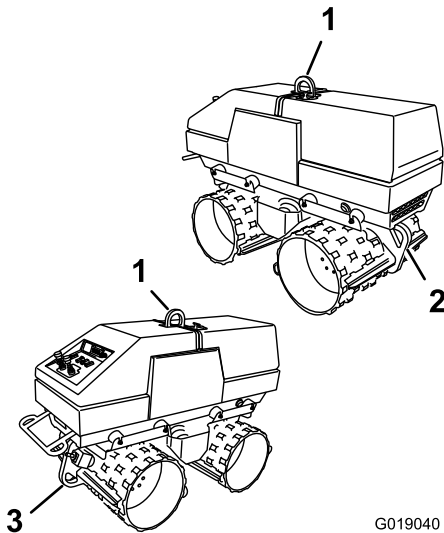

Figure 34
Lift the machine using the lift ring (Figure 34) as follows:
3. Connect the lift rigging to the lift ring on the machine (Figure 34), and lift the machine.